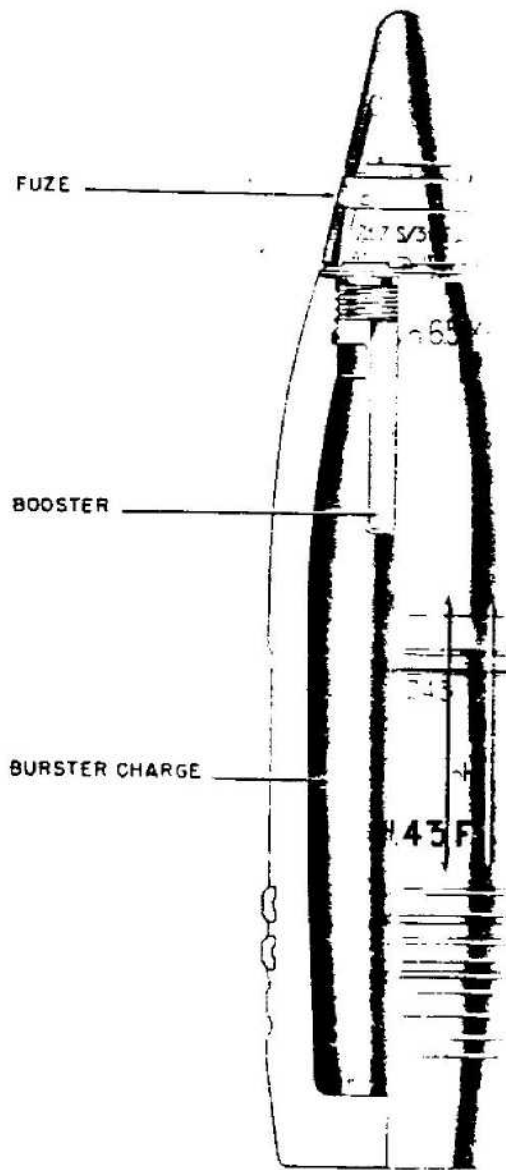

Figure 432—H. E. Projectile for 88-mm Gun, 8.8-cm Sprgr. Flak 41
**GERMAN NOMENCLATURE:** 8.8-cm Sprgr. Flak 41. (See fig. 432.)